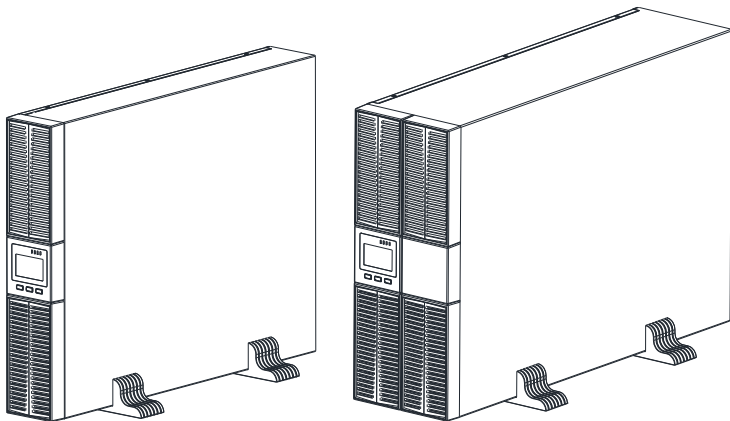

Fig.2-5 Tower installation
Step 4: Place the UPS (and battery cabinet) on the support bases. Each UPS needs two pairs of support bases to install, as shown in Fig.2-5.